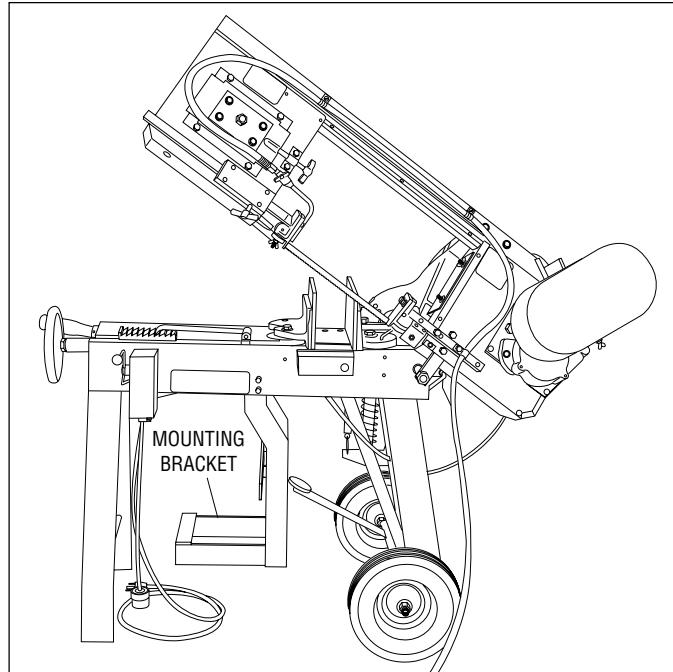

Figure 5
4. See Figure 5. Assemble the coolant nozzle, needle valve, and adapter. Attach coolant hose to the adapter and secure the hose with the hose clamp.